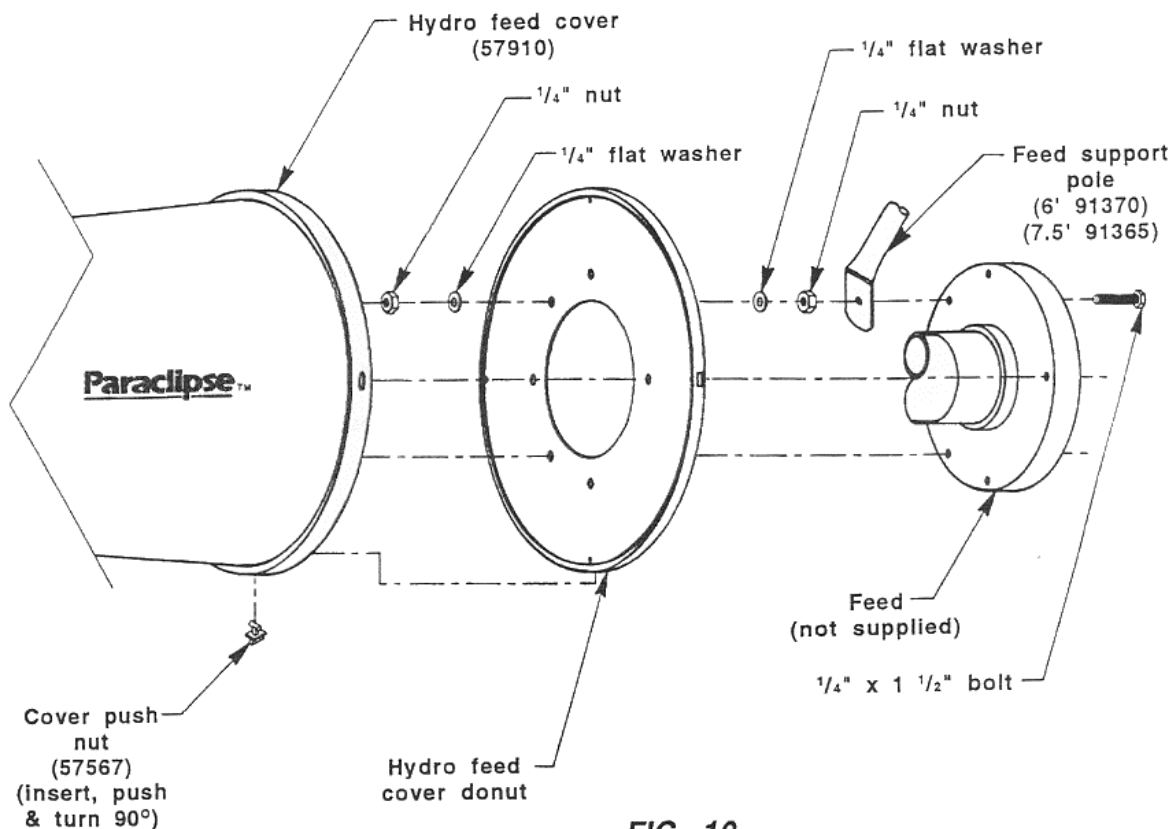

FIG. 10
4. Attach the feed and the Hydro feed cover donut to the feed support poles using three $\frac{1}{4}$ " x $1 \frac{1}{2}$ " bolts, six $\frac{1}{4}$ " flat washers, and six $\frac{1}{4}$ " nuts. (See Fig. 10)